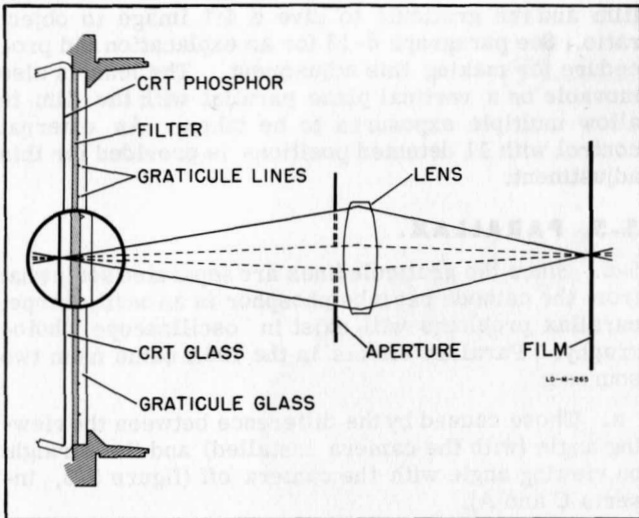

Figure 5-3. Aperture Effects on Depth of Field
a. Those caused by the difference between the viewing angle (with the camera installed) and the straight on viewing angle with the camera off (figure 5-3, inserts C and A).
b. That caused by the difference in viewing angles between the camera lens and the eye, with the camera off (figure 5-3, inserts B and A).
camera off (figure 5-3, insert A) will look like insert C with the camera in place, and will produce a picture on the film as in insert B. Parallax problems can be minimized by positioning the cathode ray tube against the oscilloscope bezel.
5-10. APERTURE EFFECTS. Aperture, the actual diameter of the lens opening, is described in terms of  $f/\text{number}$  which is the relationship between the focal length and the apparent diameter of the lens ( $f/\text{number} = f/d$ , when  $f$  = focal length of the lens and  $d$  = the apparent diameter of the lens). Figure 5-3 shows a typical oscilloscope bezel and demonstrates the effect of aperture size on depth of focus and depth of field. It should be fairly apparent from examination of figure 5-3 that because of the cathode ray tube phosphor and graticule separation, the aperture must be closed somewhat in order for both the graticule and the trace to be in focus. In the 196A, the aperture must be set to about  $f/5.6$  or smaller ( $f/\text{number}$  5.6 or higher) for both the graticule and trace to be in focus.